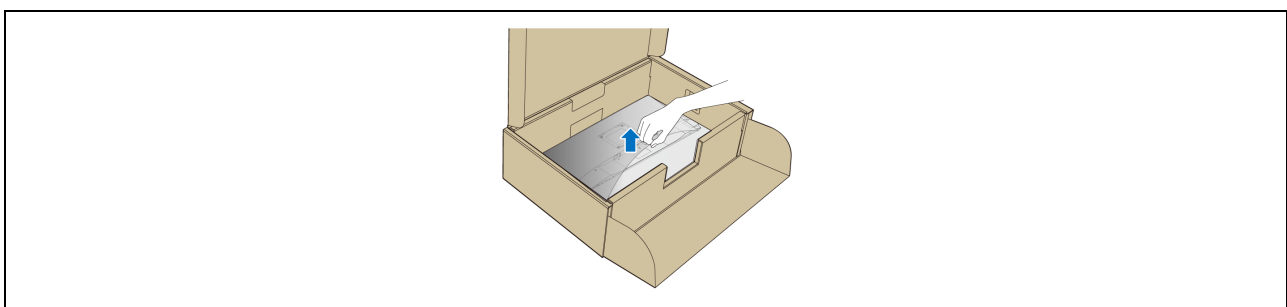

Figure 14: Monitor cover
5. Lift the cover, to expose the VESA area for stand assembly as shown in Figure 14